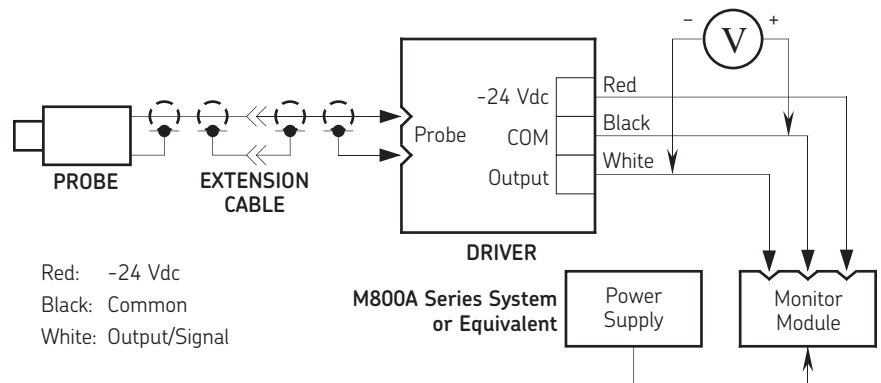

Figure 6-2. Interconnect to vibration monitor system.
6. Apply -24 Vdc power to the driver, and connect a voltmeter to the driver output (Figure 6-2).